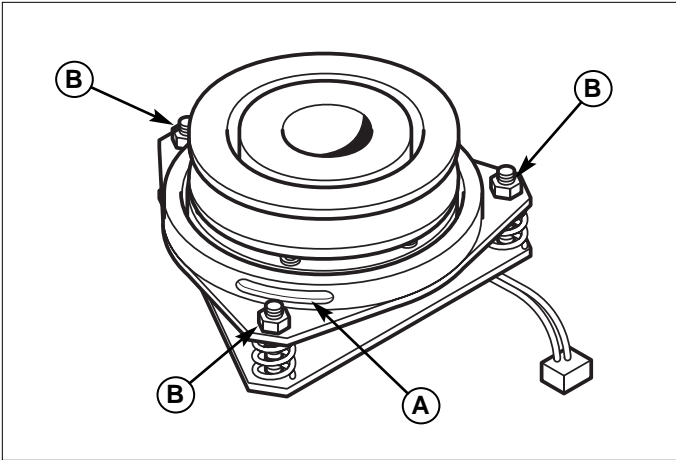

Figure 35. PTO Clutch Adjustment
2. See Figure 35. Note the position of the 3 adjustment windows (A) in the side of the brake plate and the nylock adjustment nuts (B).
4. Alternately tighten the adjustment nuts (B, Figure 35) until the rotor face and armature face just contacts the gauge.